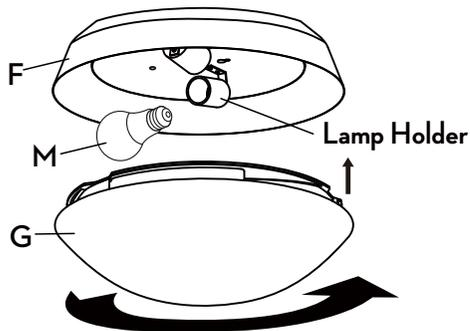

Figure 13
- Install light bulbs (M) (max. 9W, LED, medium screw base) to the lampholders.
- Install the lamp shade (G) onto the light kit plate (F) by gently twisting and locking into position. (Figure 13)